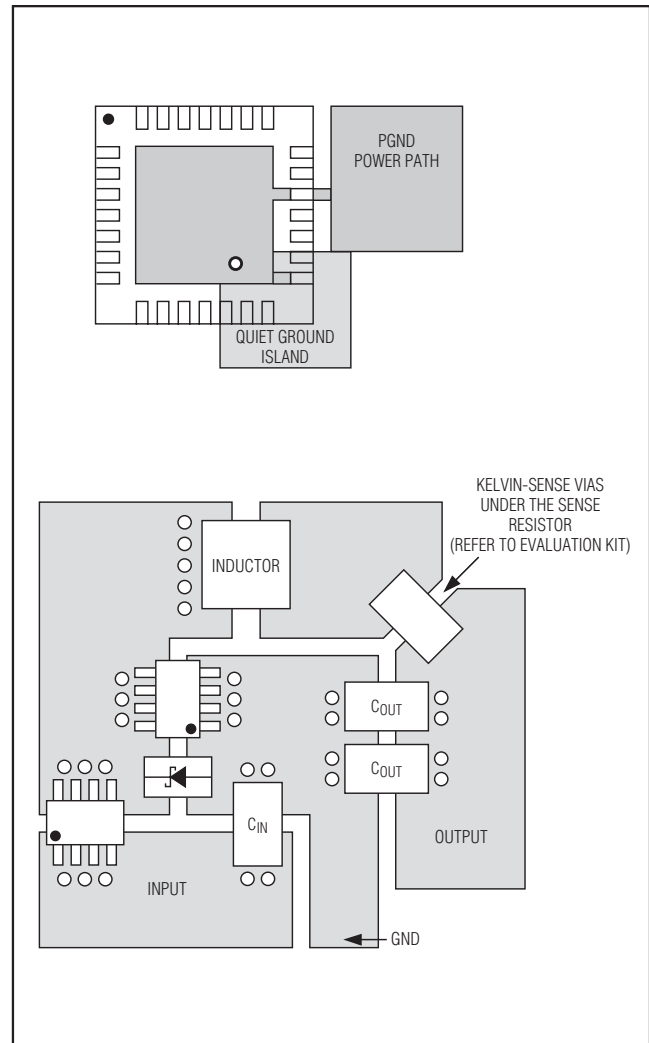

Figure 12. PC Board Layout Examples
- 5) Use a single-point star ground placed directly below the part at the PGND pin. Connect the power ground (ground plane) and the quiet ground island at this location. See Figure 12.